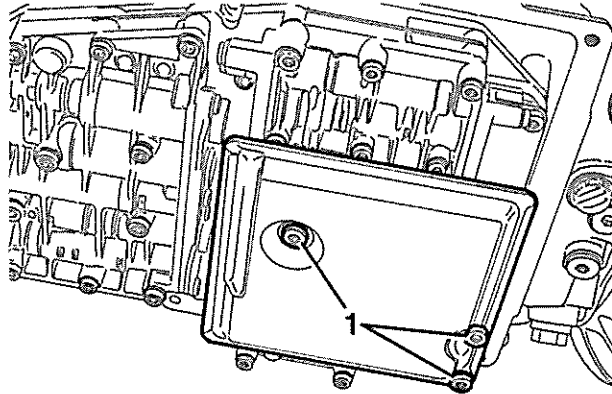

Fig 3 Oil screen retainer
- 11.8 Unscrew oil screen Torx retaining screws with TX 27 (see Table 1, Ser 3) (see Fig 3).